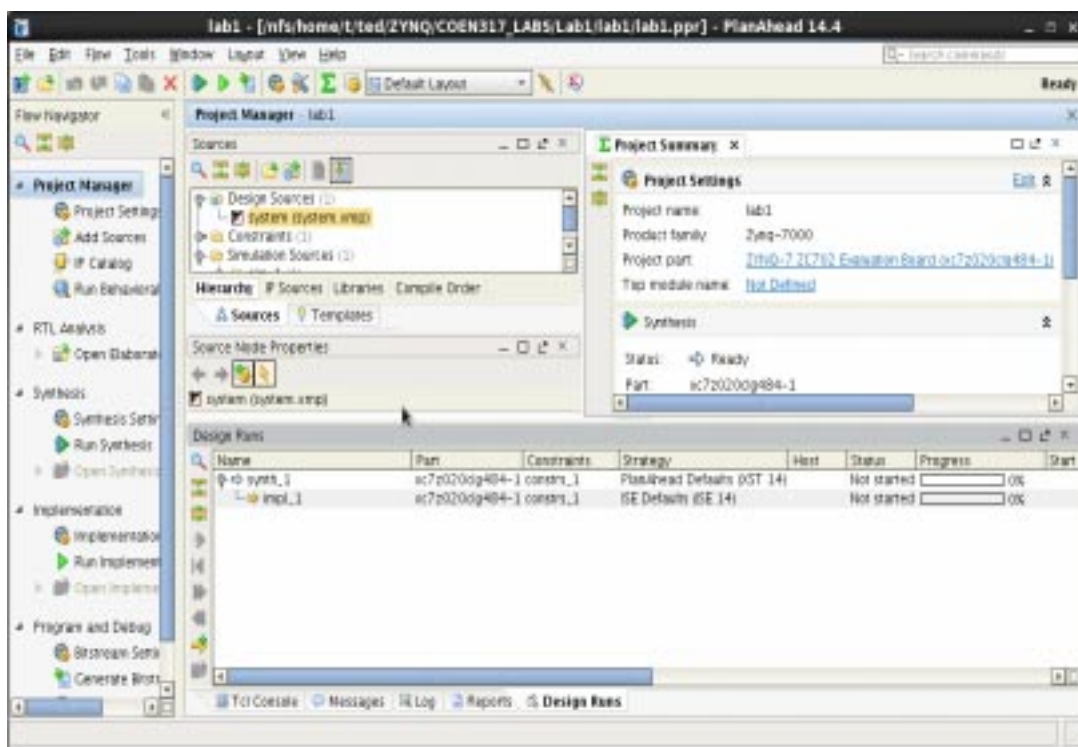

Figure 10. Creating the Top HDL.
6.1 In the PlanAhead window (Figure 10) , within the top middle Project Manager pane, **right click the system(system.xmp)** and select **Create Top HDL**.